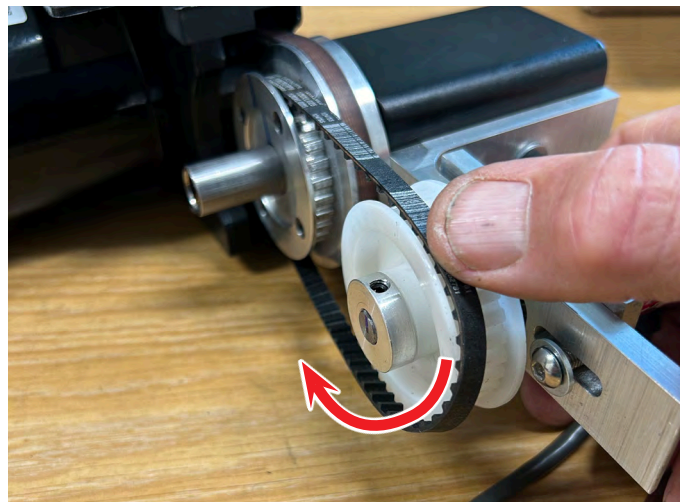

FIGURE 25—Turn the cog pulley to help seat the belt.
9. Move the encoder / cog pulley assembly towards the headstock. Walk the timing belt over the top lip of the cog pulley. Then turn the cog pulley to seat the belt around the entire pulley (see Figure 25).